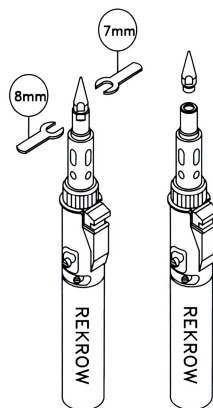

FIG 2
1. REPLACE SOLDERING TIPS with 7mm Wrench on the Soldering Tip or Hot Blow Head and 8mm Wrench on the Soldering Head, you can tight Tip or Hot Blow Head or unscrew them. (FIG 2)